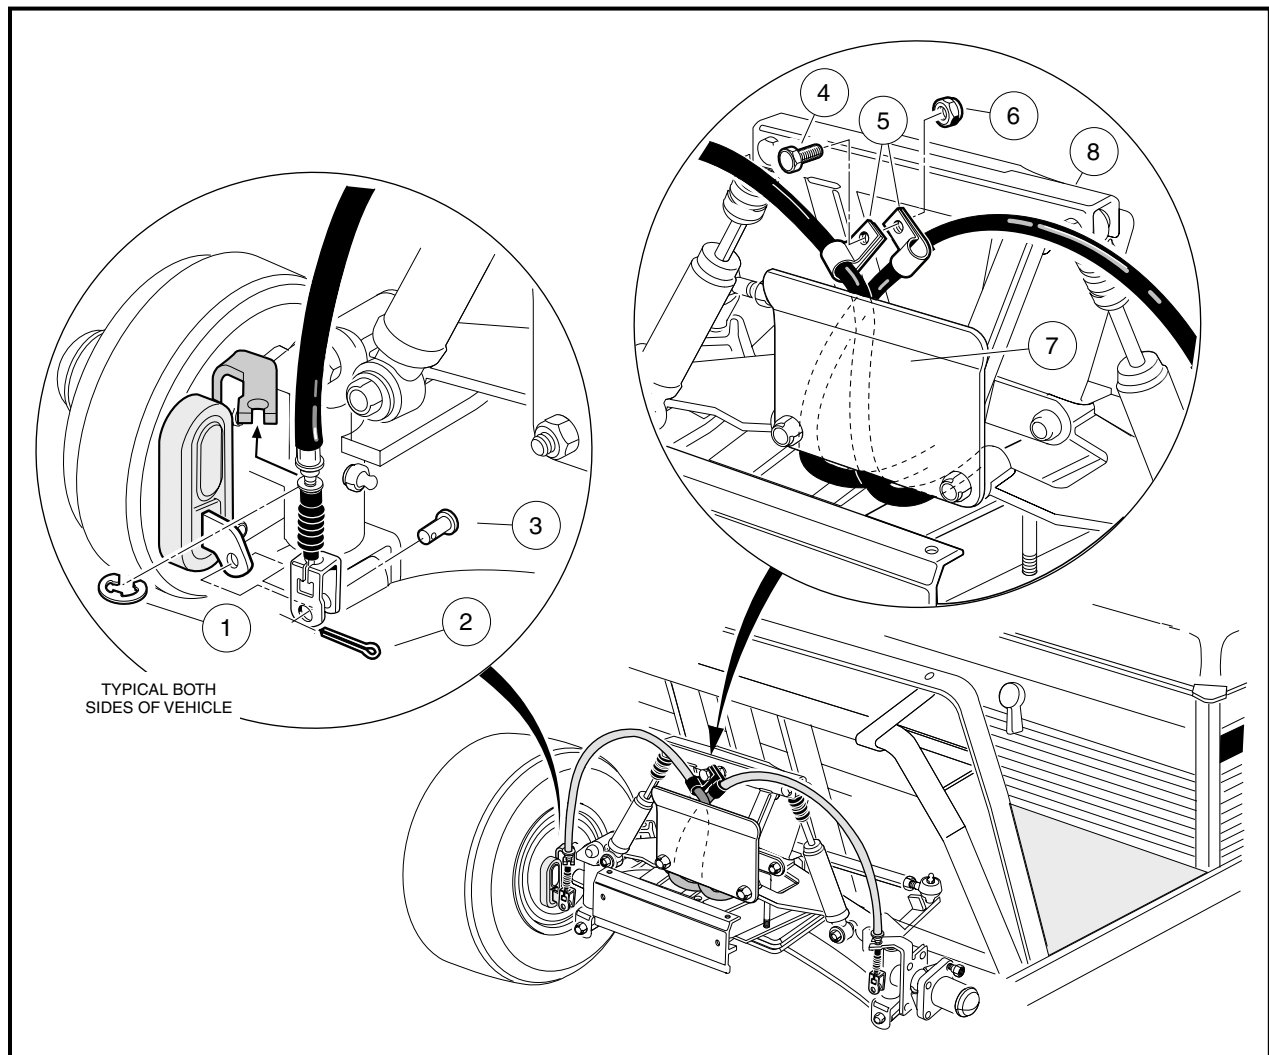

Figure 6-35 Front Brake Cables
1. Remove cotter pin (2) and clevis pin (3) from brake lever arm on front brake cluster (**Figure 6-35, Page 6-20**).
2. Remove E-clip (1) from brake cable housing at the front spindle bracket and remove cable from spindle (**Figure 6-35, Page 6-20**).
4. Remove bolt (4) and nut (6) from brake cable clamp (5) (**Figure 6-35, Page 6-20**).
5. Route brake cable between the shock support (8) and brake cable guide bracket (7) (Figure 6-35, Page 6-20). Secure brake cable retainer clips (5) with a bolt (4) and nut (6).
6. Install brake cable through the front spindle brackets and install E-clip (1).
7. Install brake cable clevis onto brake lever arm and install clevis pin (3) and a new cotter pin (2).